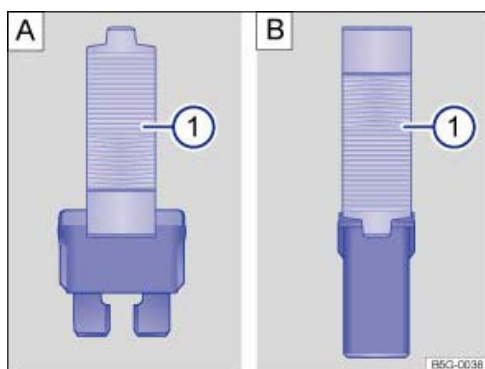

Fig. 244 Remove or insert fuse with plastic pliers: flat blade fuse, JCASE® fuse.
- Push the plastic pliers suitable to the fuse design → Fig. 244 **A** ① or → Fig. 244 **B** ① onto the fuse from the side.